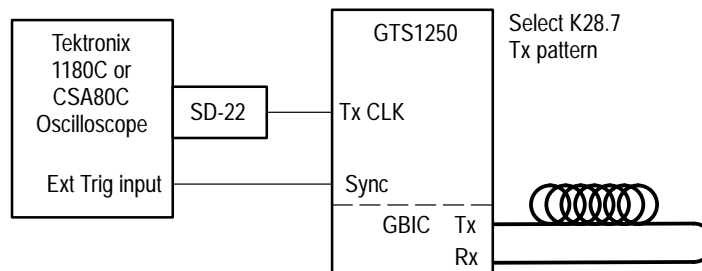

Figure 18: Tx CLK levels
8. Remove the SMA cables from the Tx DATA and Tx $\overline{\text{DATA}}$ outputs of the GBIC Test System. When inputs or outputs are not in use, replace the $50\ \Omega$ terminations. Connect an SMA cable between the Tx CLK output of the GBIC Test System and the SD-22 input of the oscilloscope as shown in Figure 18.